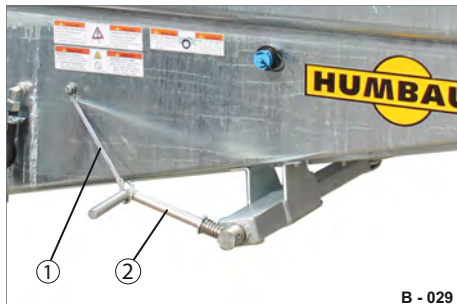

Fig. 34 Screw parking brake
- Release the hook (Fig. 34/1) from the crank (Fig. 34/2).